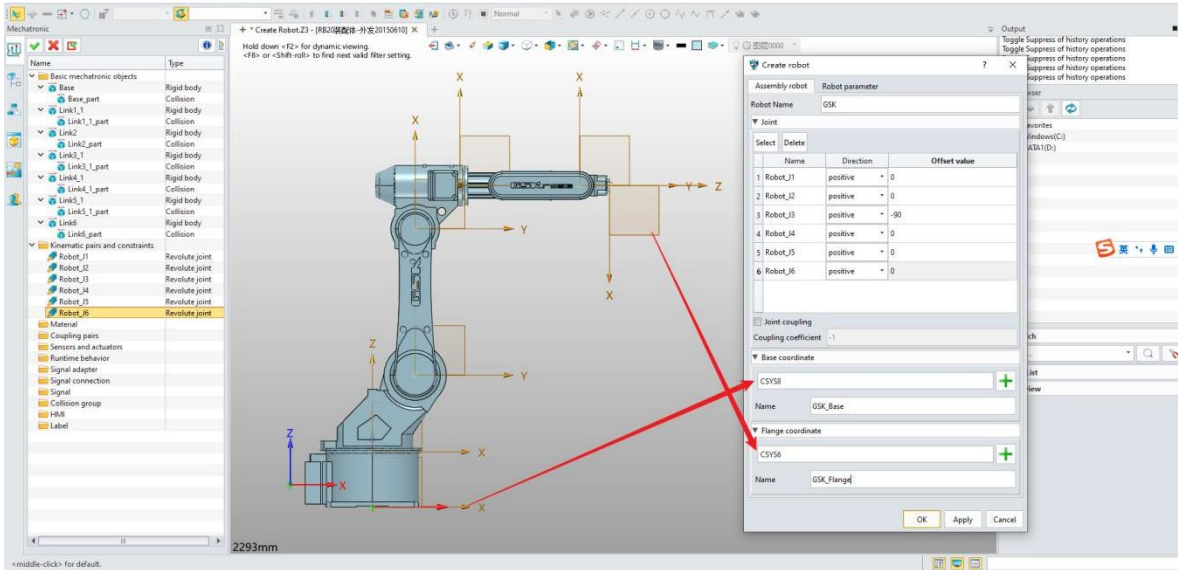

Figure 8-20: Assembly Robot
- Choose "GSK_Base" for "Base Coordinate CSYS8" and "GSK_Flange" for "Flange Coordinate CSYS7". (Figure 8-20)